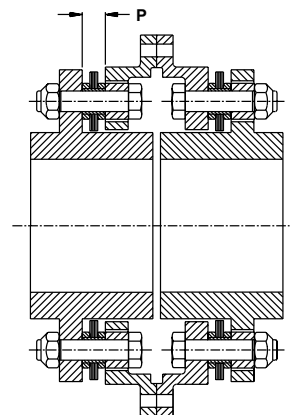

Figure 5. Axial Alignment Measurements
- 4.1 Measure the thickness of the disc pack before bringing the equipment together. (See Figure 5 dimension P). The axial separation is set after the adapters and disc packs are bolted to the hubs. Bring the driving and driven equipment together until the flanges of the adapters touch. Measure the gap between the disc pack flanges and adjust the axial separation of the equipment until this measurement equals the thickness of the disc pack.